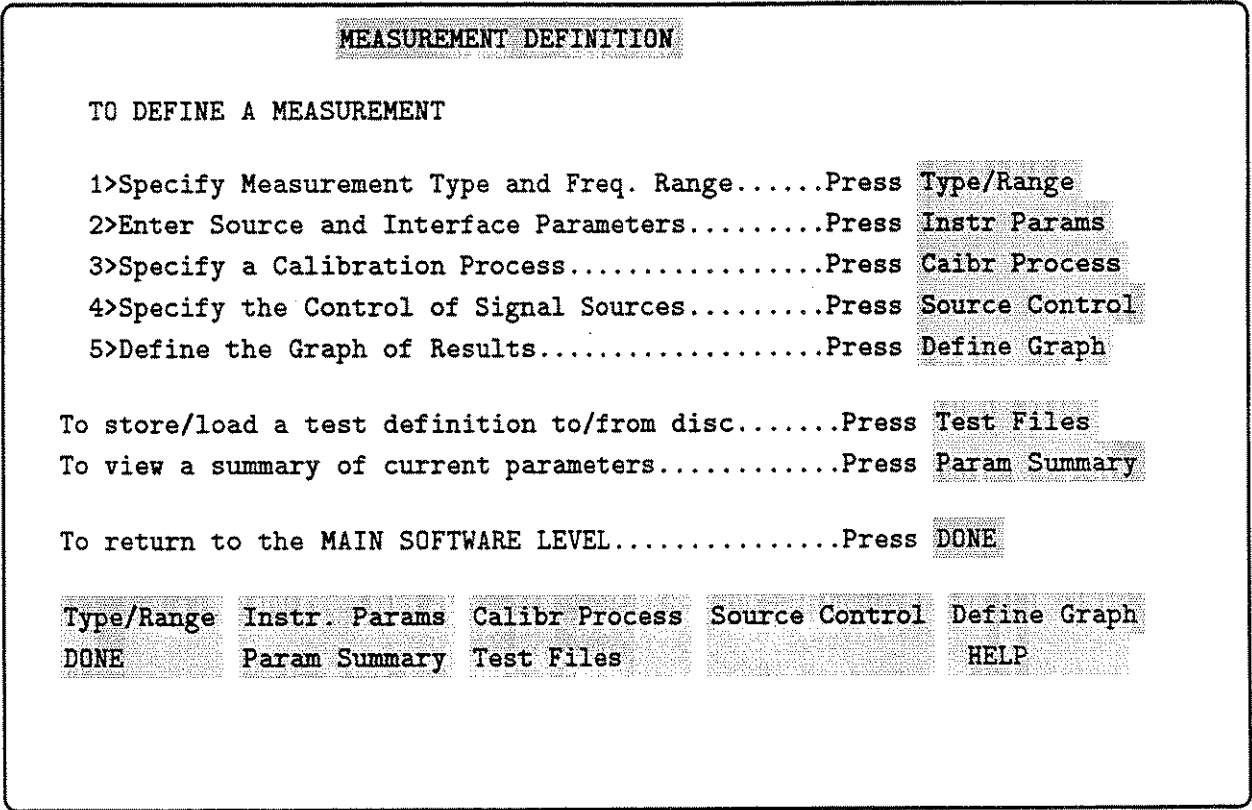

Figure 6-12. Measurement Definition Menu
6. On the HP 3048A press the Define Msrmt softkey to obtain the Measurement Definition menu as in Figure 6-12.